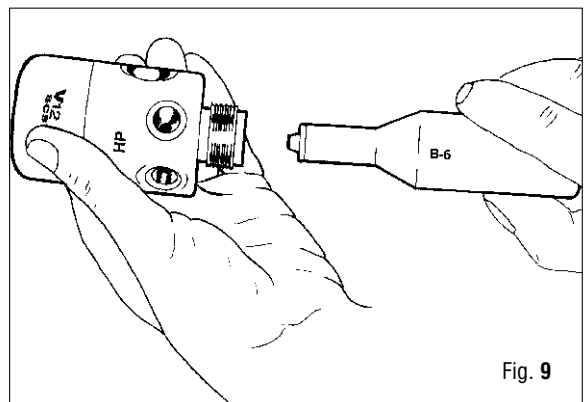

Fig. 9
13. Properly and carefully position poppet (9) on poppet pin (12), using special tool B-6. (Fig. 9)